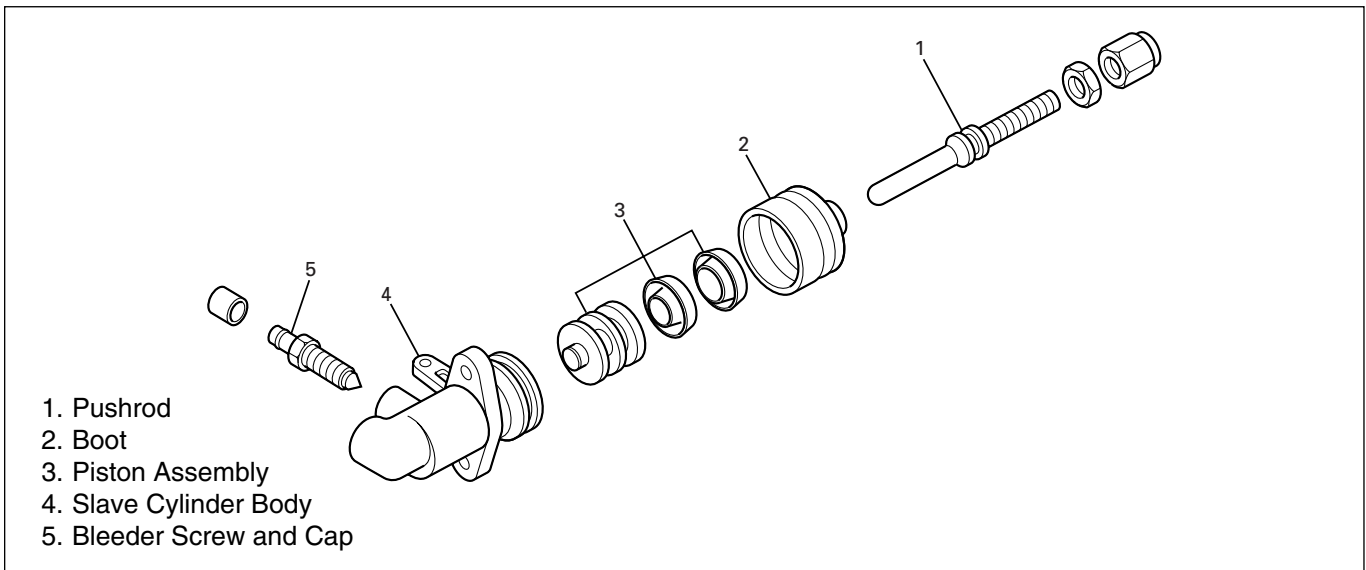

Figure 27. Slave Cylinder Assembly
Disassemble (Figure 27)
**Assemble (Figure 27)**
1. Slave cylinder body (12).